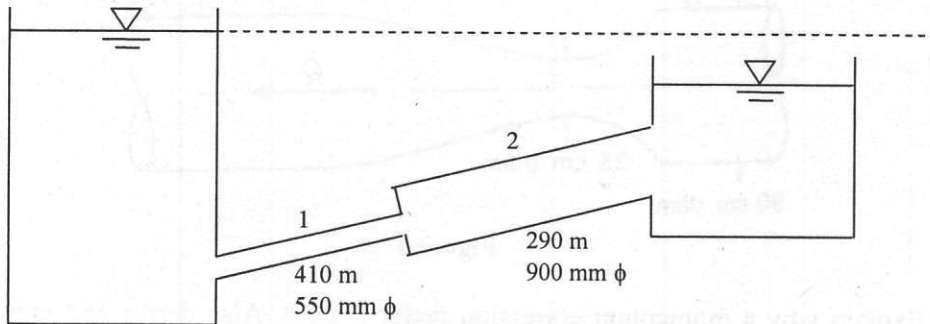

Figure 3
5. (a) A pipeline 40 m long is connected to a water tank at one end and discharges freely into the atmosphere at the other end. For the first 15 m of its length from the tank, the pipe is 20 cm in diameter and its diameter suddenly enlarges to 45 cm. The height of water level in the tank is 12 m above the center of the pipe. Considering all losses of head that occurs, determine the rate of flow. Assume $f = 0.025$ for both the pipes. (8)
(b) Two reservoirs with a difference in water surface elevation of 10 m are connected by two pipes in series as shown in figure 3. The equivalent roughness heights of the two pipes are 2.2 and 0.5 mm respectively. Find discharge by equivalent velocity head method. Given $\nu = 3 \times 10^{-6} \text{ m}^2/\text{s}$. Use Moody diagram for friction factor. (17)